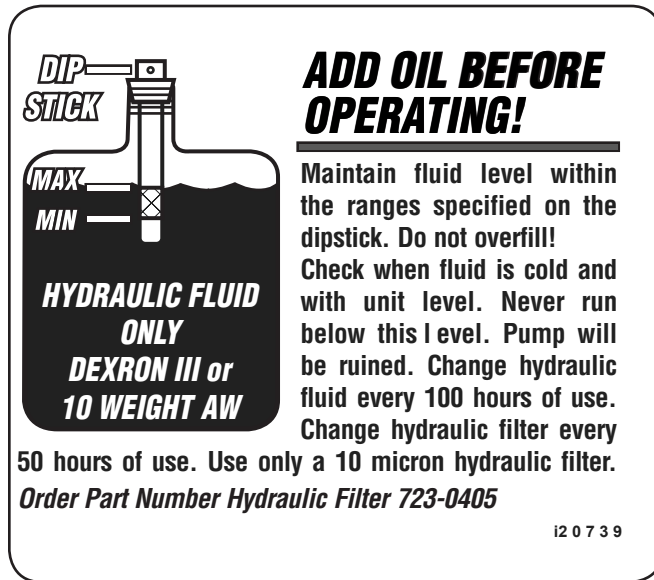

Figure 3-13
9. Refill the reservoir within range marked on the dipstick. See Fig. 3-13.